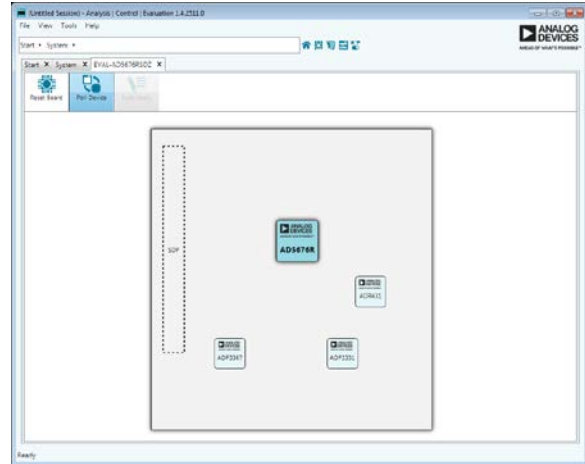

Figure 2. Board View of the EVAL-AD5676RSDZ
4. Double-click on the board plug-in to open the board view seen in Figure 2.